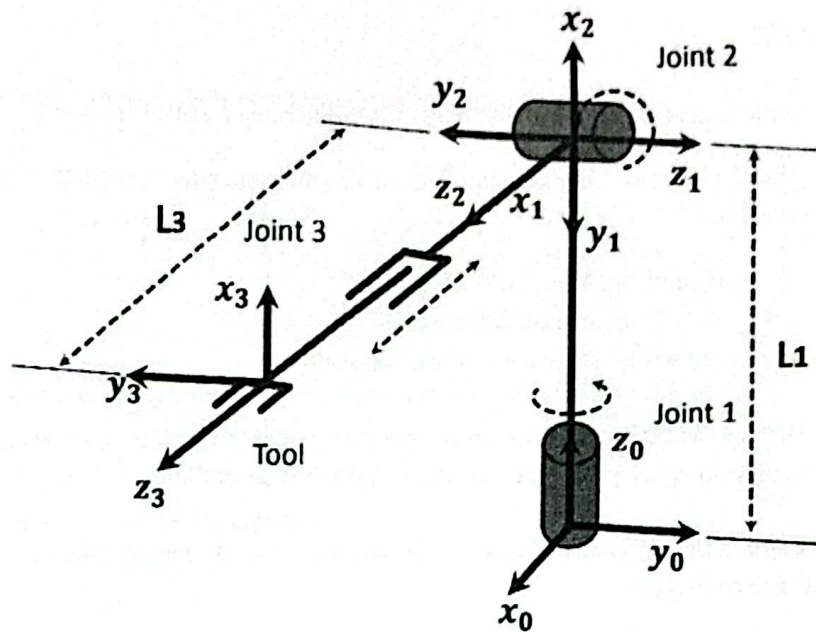

Fig. Q.3
- a. Consider the RRP robot shown in the Fig. Q.3. The home position for the robot has the base of the robot on the ground with  $L_1 = 3m$ .